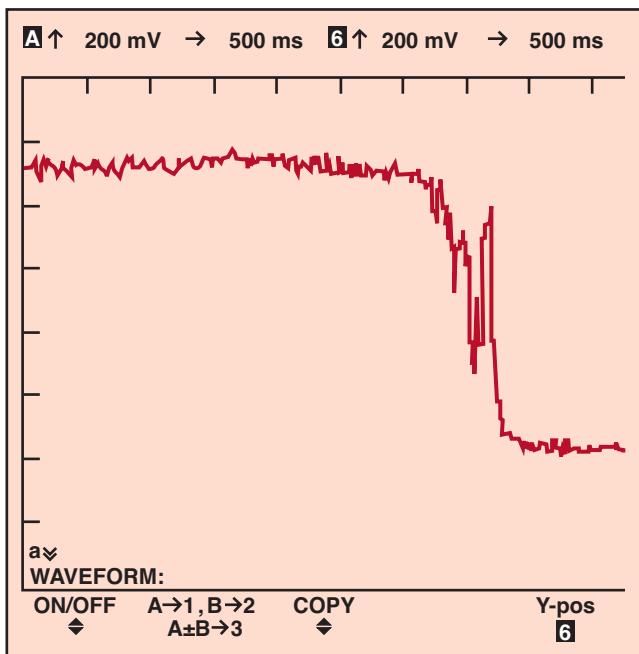

FIGURE 17-16 When the propane is shut off, the oxygen sensor should read below 200 mV.
4. Shut off the propane. The waveform should drop to less than 200 mV (0.200 V), as shown in **FIGURE 17-16**.